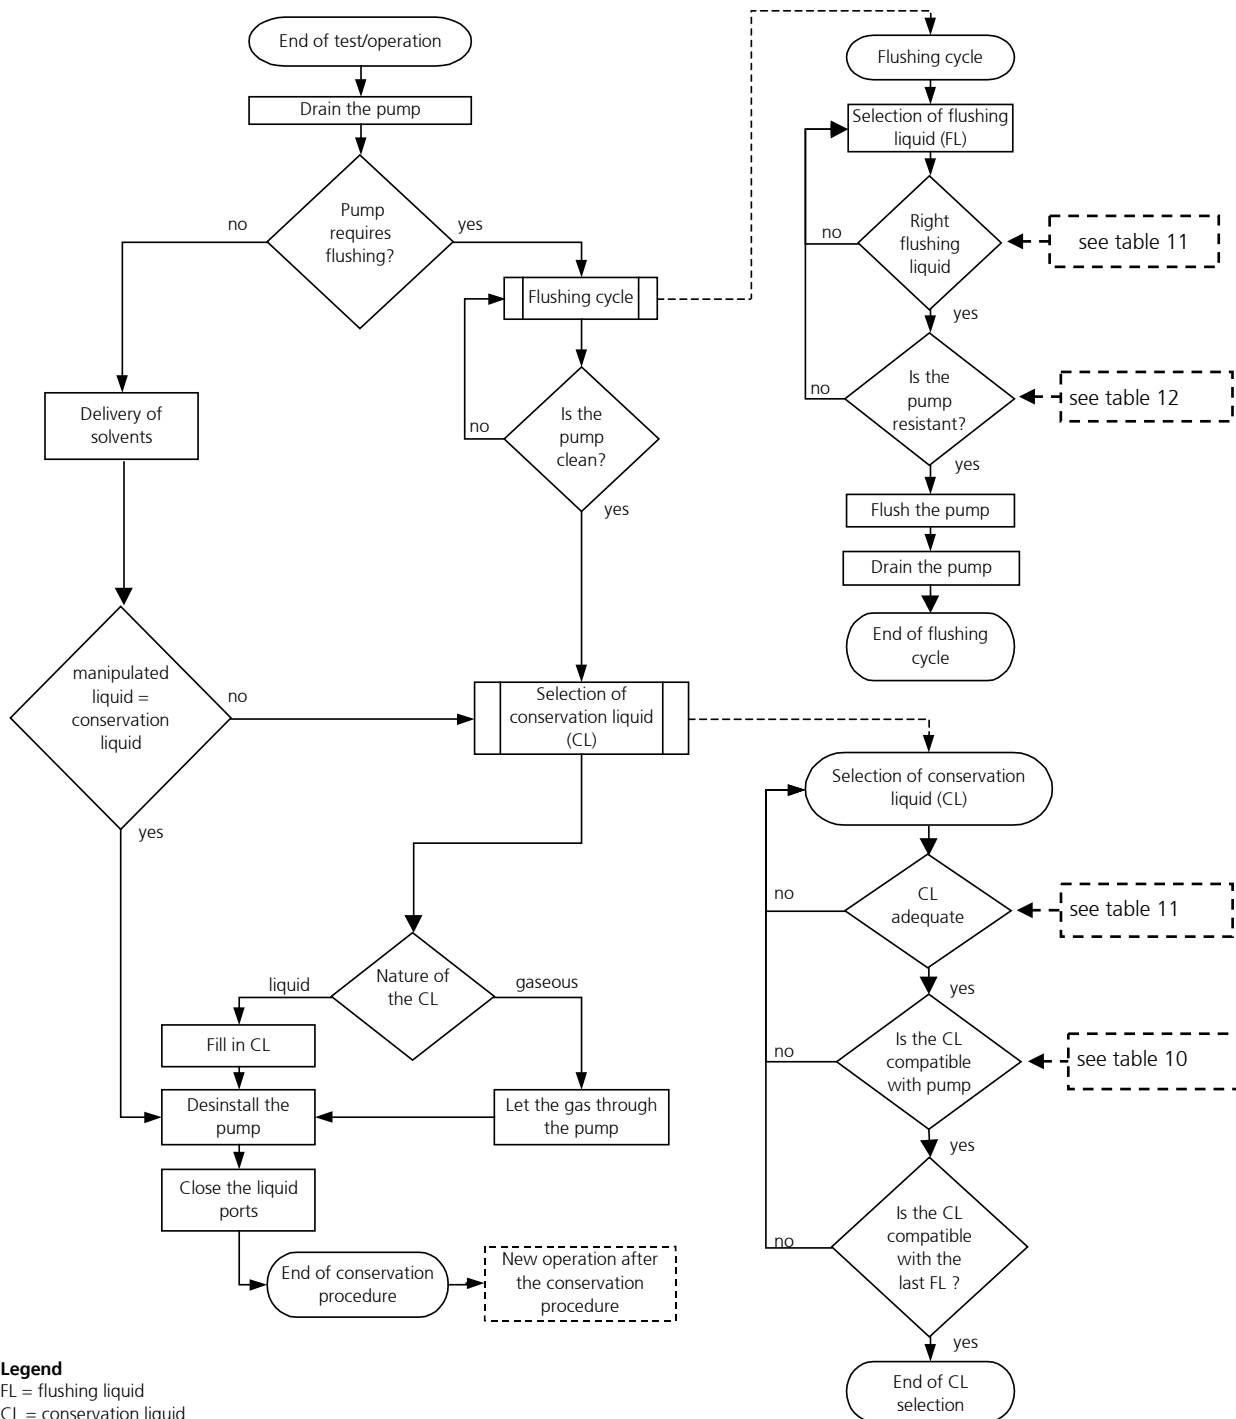

figure 17 Shutdown procedure
By proceeding as shown in the diagram (see figure 17) you may prepare the pump for a longer standstill.
*Remark:* This diagram is repeated as a part of the figure 17 »Shutdown procedure«.